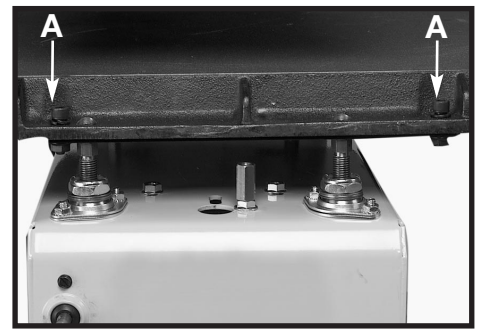

Fig. 32
2. Use a 1/4" hex wrench to remove the four table mounting screws, lockwashers and flange nuts, two of which are shown at (A) Fig. 32.